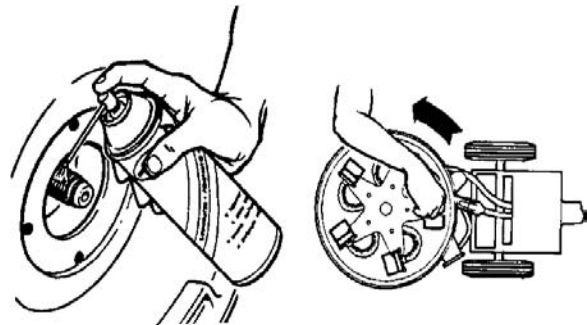

Figure 21. Lubricate Shaft and O-Ring; Rotate Head Counterclockwise
10. Coat the motor shaft with TKX® All-Purpose Lube or a similar lubricant before re-installing the cleaning head. Apply the lubricant to the O-ring. Locate the head onto the shaft, making sure the threads are aligned properly, and rotate the head counterclockwise (see Figure 21).